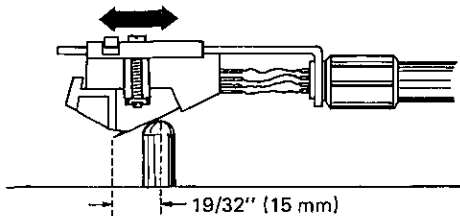

Fig. 4
2. Move the tone arm over the turntable shaft and move the cartridge back or forth to obtain a space of  $19/32''$  (15 mm) between turntable shaft and stylus tip (Fig. 4). Fix cartridge in this location by tightening mounting screws.